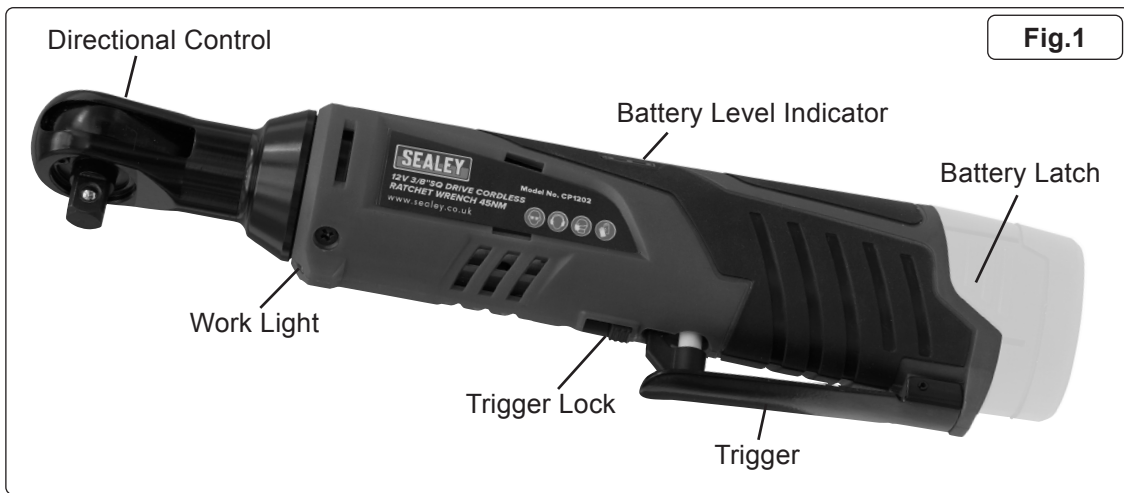

Fig.1
- 4.1.2. Press the battery latches in (located either side of grip and withdraw the battery pack (fig.1).
- 4.3.2. Select the required direction of rotation. To change direction, turn the direction selector (fig.1) to the left or right.